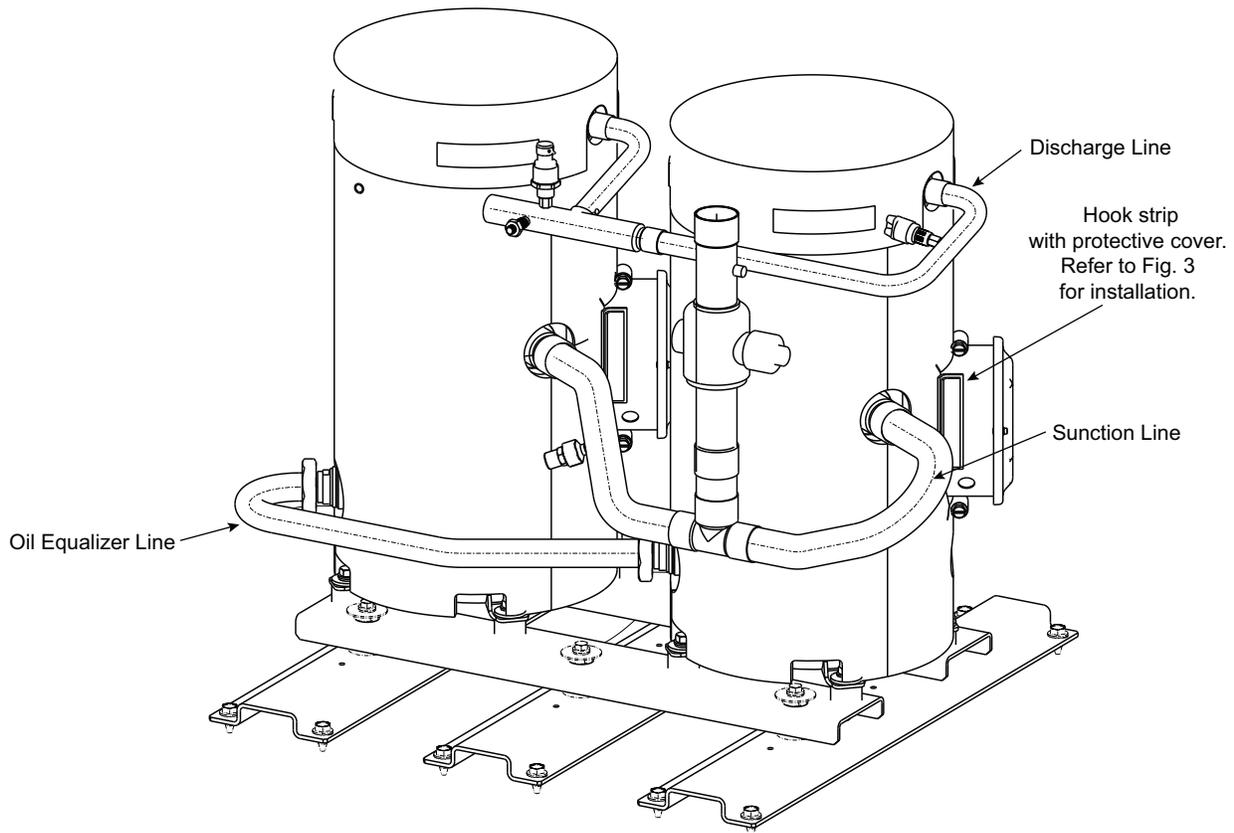
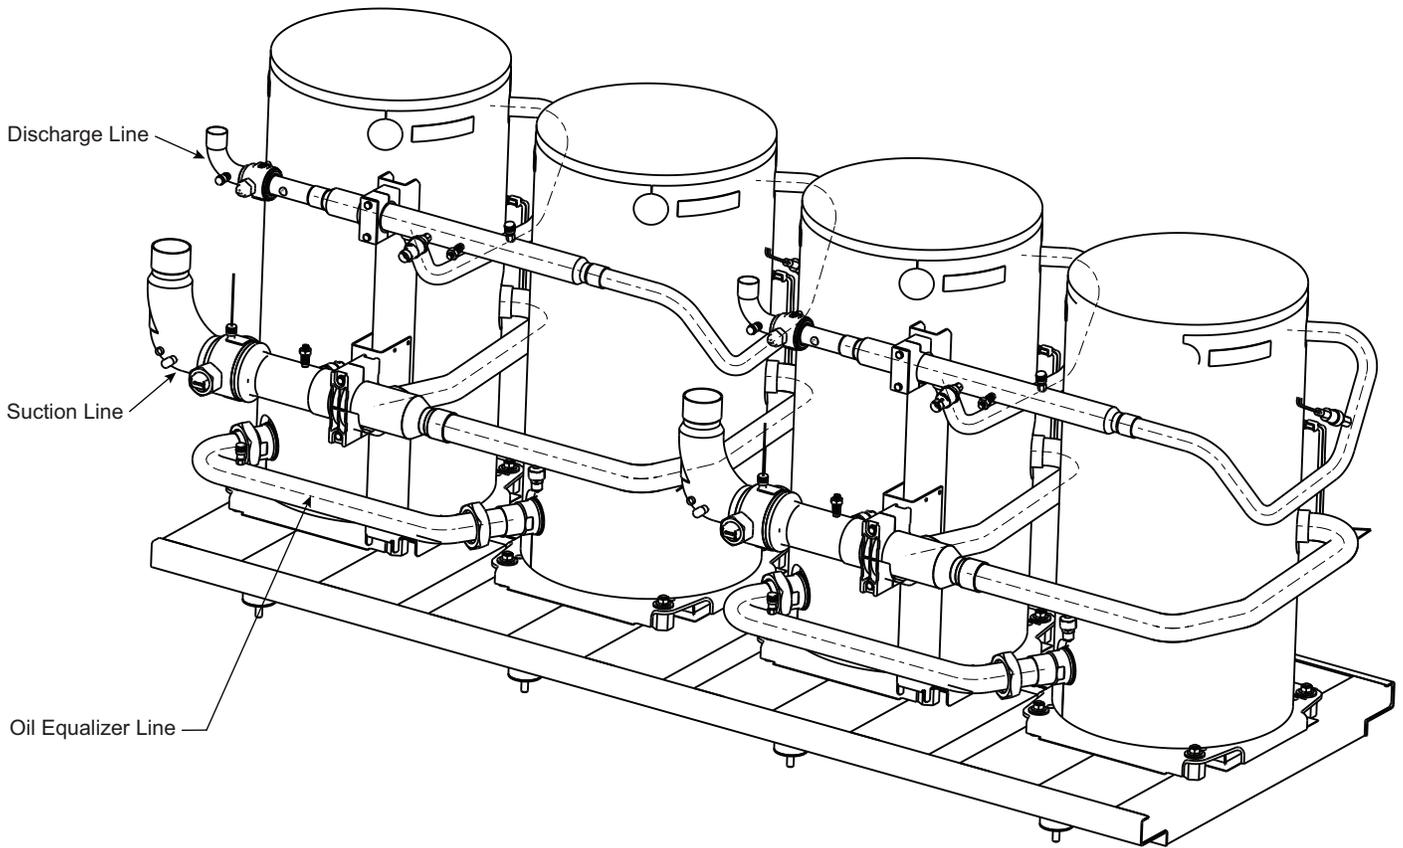

Fig. 1 – Wrap Sound Blanket – 15T Compressor
Fig. 2 – Wrap Sound Blanket – 20T/25T/40T/44T Compressors
1. Align the suction and discharge line slots on the blanket to the tubes. See Fig. 1 for 15T compressors and Fig. 2 for 20T, 25T, 40T, and 44T compressors. See Table 1 for size 152 and up chillers; these sizes have voltage-specific sound blankets on 44/44T compressors.
3. Align the oil equalizer line slots in the blanket to the tube at the back of the compressor. See Fig. 1 for 15T compressors and Fig. 2 for 20T, 25T, 40T, and 44T compressors.